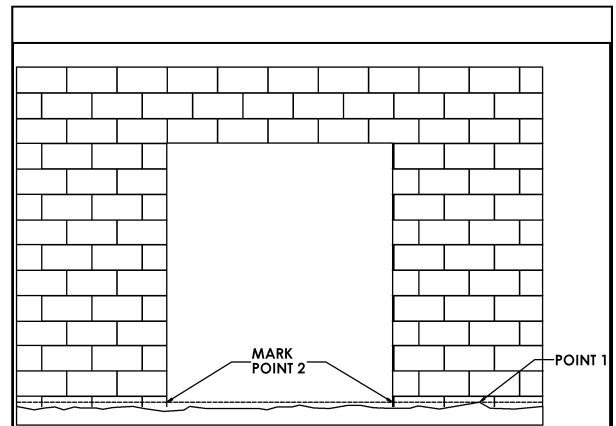

FIGURE 1
- Locate the high point on the floor along the entire travel path of the door, as illustrated in Figure 1, Point 1.
- Mark this point on the door jambs as illustrated by the dotted line and Point 2, in Figure 1.